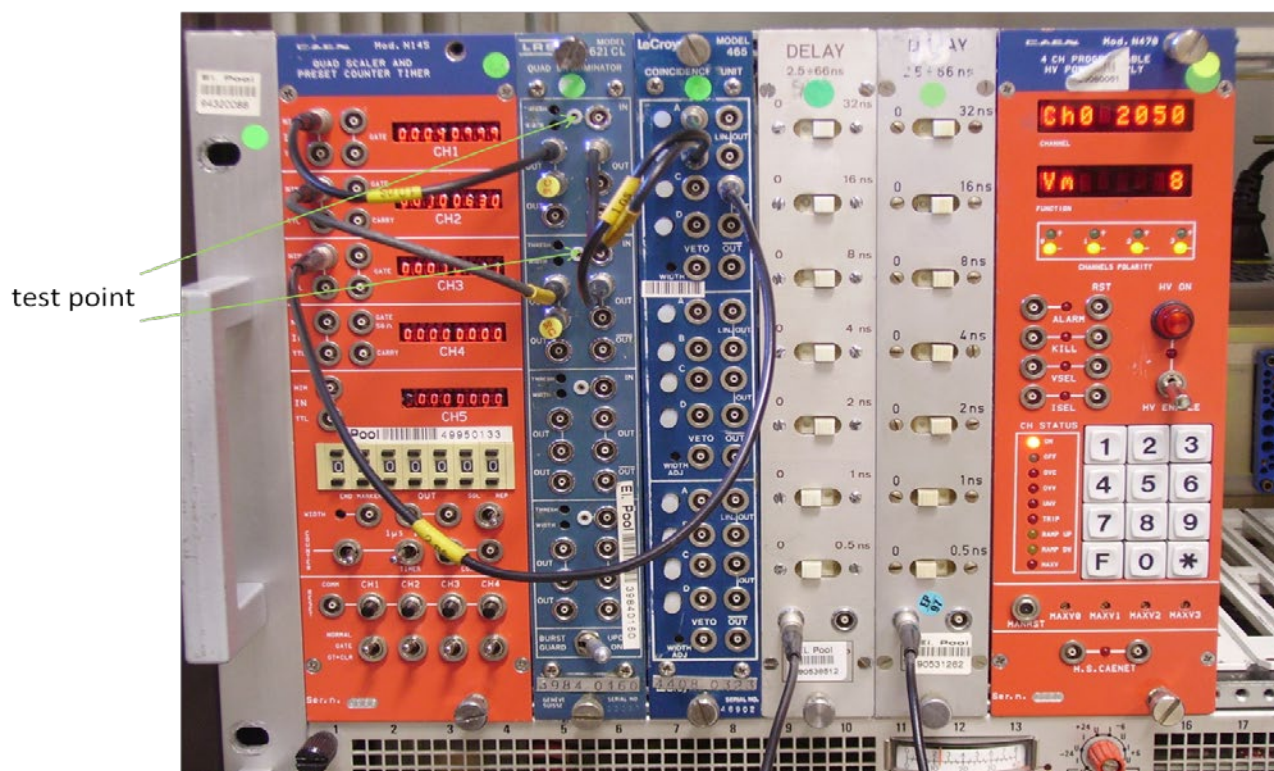

Figure 3. NIM trigger electronics. From left to right: scaler (counter), discriminator, coincidence unit, delay modules and high voltage power supply.
The NIM modules used to build the trigger and the input to the readout system and provide the high voltage is shown in Figure 3. NIM trigger electronics. From left to right: scaler (counter), discriminator, coincidence unit, delay modules and high voltage power supply.3.
8. Connect an output to the oscilloscope (0.5 Volts, 50 ns) and adjust the pulse width to around 100 ns using a small screwdriver (terminate the other output with 50 Ohm), see Figure 3. NIM trigger electronics. From left to right: scaler (counter), discriminator, coincidence unit, delay modules and high voltage power supply.3.
10. Set the discriminator threshold to 50 mV: adjust the voltage on the test point using a DC voltmeter and a small screwdriver, see Figure 3. NIM trigger electronics. From left to right: scaler (counter), discriminator, coincidence unit, delay modules and high voltage power supply.3. The voltage is 10 times the threshold value i.e. the voltage should be around 0.5 Volts. This step may require teamwork.